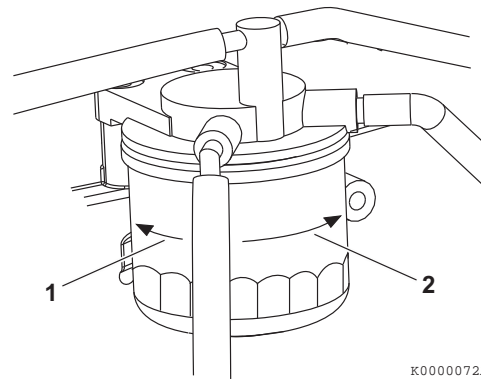

Figure 16
3. Remove the fuel filter using a filter wrench to turn it to the left (**Figure 16, (1)**). When removing the fuel filter, carefully hold it to prevent the fuel from spilling. Wipe up all spilled fuel.
5. Install the new fuel filter. Hand-tighten it to the right (**Figure 16, (2)**) until it comes in contact with the mounting surface. Use a filter wrench and tighten to 14 - 17 ft-lb (19.6 - 23.5 N-m, 2.0 - 2.4 kgf/m) or one additional turn using the filter wrench.